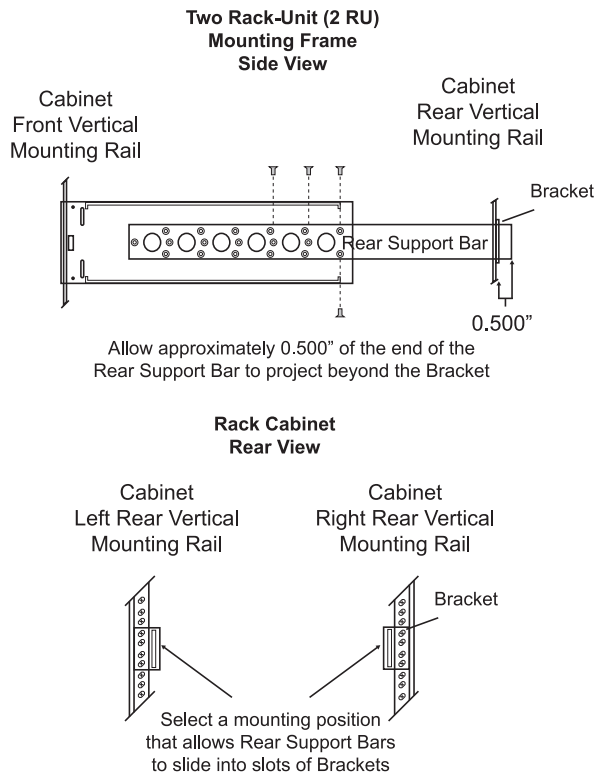

Figure 1.1 Installing the Frame in an Equipment Rack
1. The rear support bars can be attached to the frame in one of the possible positions illustrated in (Figure 1.1). Choose the position that suits the cabinet depth that will give approximately 1/2 inch projection beyond the rear vertical mounting rails.